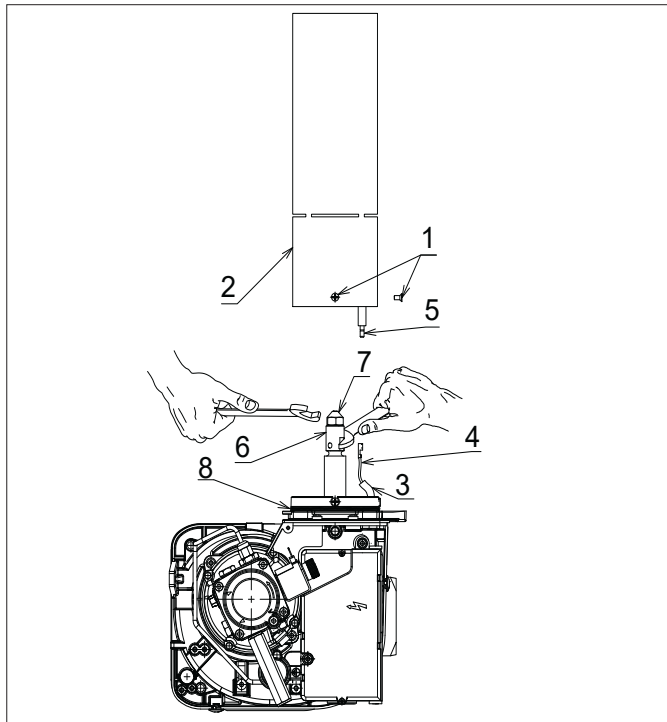

Figure 10-3: Burner head and nozzle holder
1. Remove the burner head. Refer to Figure 10-3. Unscrew and remove the two fixing screws (1) and carefully separate the head (2) from burner.
2. Refer to Figure 10-3. Disconnect both ignition leads (4) from the electrodes (5) and also the lead from the flame ionisation probe.
6. Reconnect the leads to the electrodes and flame ionisation probe, as follows. Refer to Figure 10-3.
- First, ensure the insulation sleeve (3) is slid down the lead and is not covering the metal connector.
- Firmly push the metal connector (4) on to the electrode (5) or flame ionisation probe.
- Carefully slide the insulation sleeve (3) up the lead to fully cover the metal connector (4).
7. Re-fit the burner head. Refer to Figure 10-3.
- Locate the head fixing screws (1) in the countersunk slots in the burner collar.
- Tighten the two screws (1) to secure the head (2) in position on the burner.